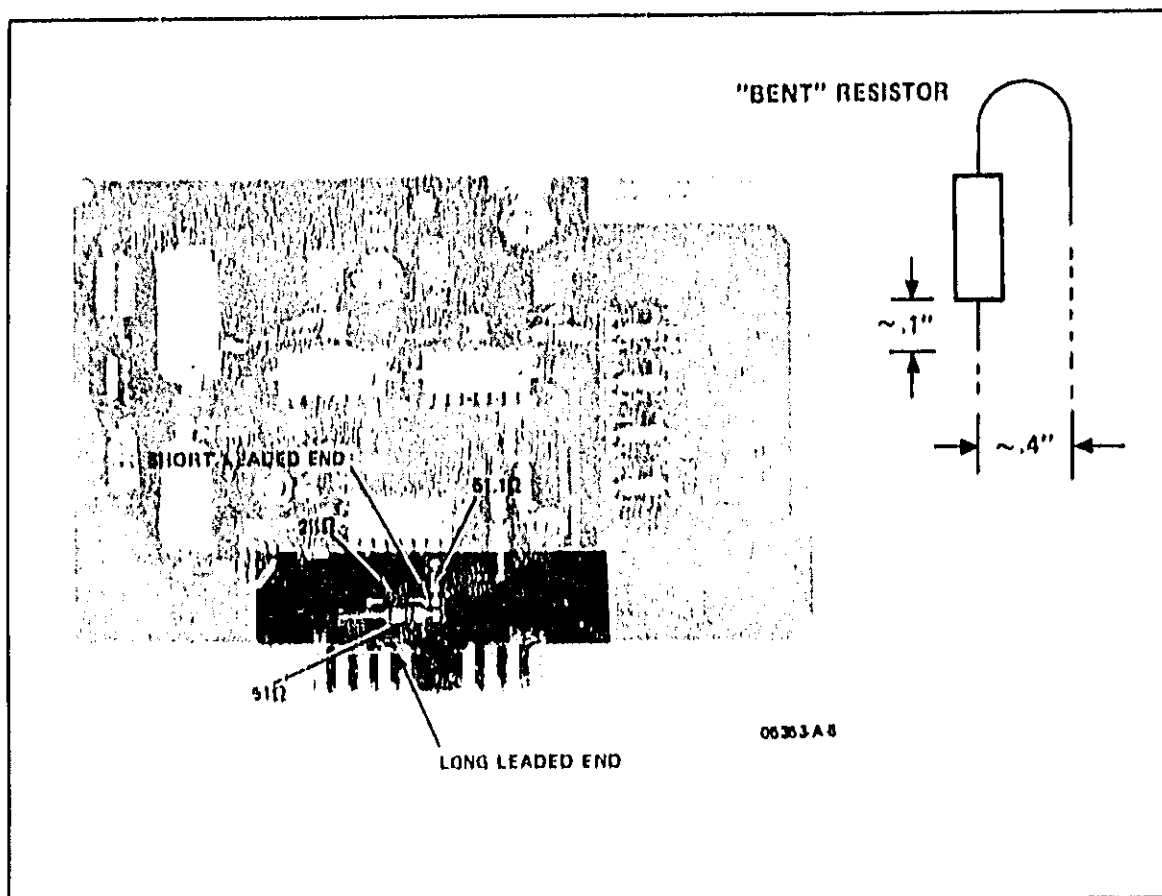

Figure 5-1. Resistor Installation for A4 Gate Assembly Adjustments
2. Insert an 820 Ω 5% resistor from junction of A4R4 and A4R5 to -5.2V, see Figure 5-1 for placement and length of resistor leads. Reinstall A4.